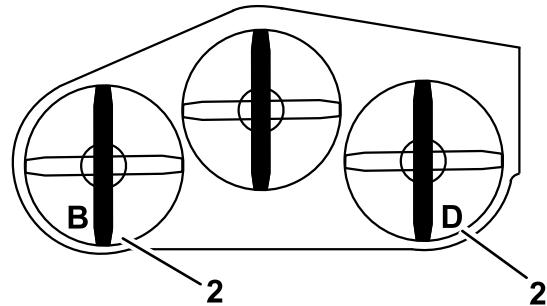

Figure 81
2. Measure the left blade at the **B** location, from a level surface to the cutting edge of the blade tip, and record this measurement (Figure 81).
3. Measure the right blade at the **D** location, from a level surface to the cutting edge of the blade tip, and record this measurement (Figure 81).
**Note:** The measurement at position **B** needs to be within 3 mm (1/8 inch) of the measurement at position **D** (Figure 81). If it is not correct, proceed to the following steps.